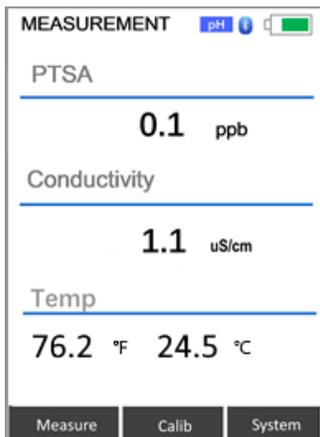

Figure 11. PTSA measurement screen
3. A screen like Figure 11 appears. The unit is actively reading and displaying both PTSA and Conductivity.
3. Press **Calib** (the > key) to launch the calibration selection screen (Figure 11). Press **Calib** again to select **Cond** (conductivity) calibration. Press **OK** to start the calibration procedure. A screen like Figure 16 appears. This is the default combined Calibration mode, which requires the Pyxis combined standard.
3. Press **Calib** to launch the calibration selection screen (Figure 11). Press **Calib** again to select **Cond** (conductivity) calibration. Press **OK** to start the calibration procedure. A screen like Figure 16 appears. This is the default combined Calibration mode, which requires the Pyxis combined standard.